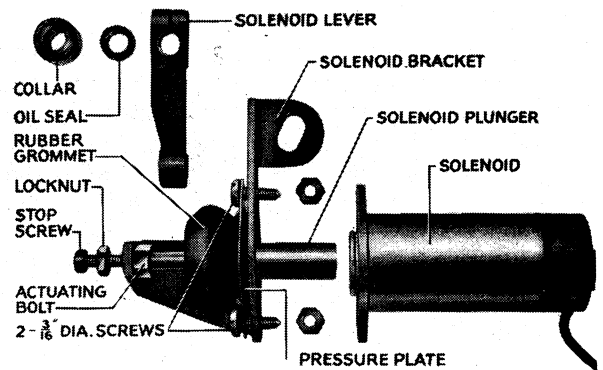

Fig. 27 Exploded view of Solenoid operating details.
4. Fit the pressure plate over the grommet, and with two $\frac{3}{16}$ " diameter screws position on the solenoid bracket (Fig. 27).